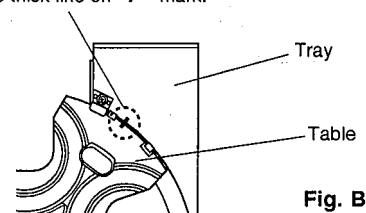

Fig. B-2
- 3) Install the Table by aligning it to the thick line on " / " mark. (Fig.B-2)